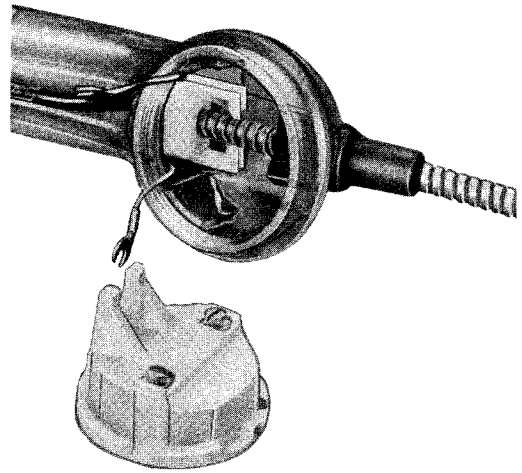

Fig. 15—Handset with Armored Cable
2.25 All current coin collectors and coin telephone sets are equipped with armored handset cords (Fig. 15). Transmitter and receiver caps are cemented to the handset handle. Refer to Section 501-210-102 for complete information on handsets.♣